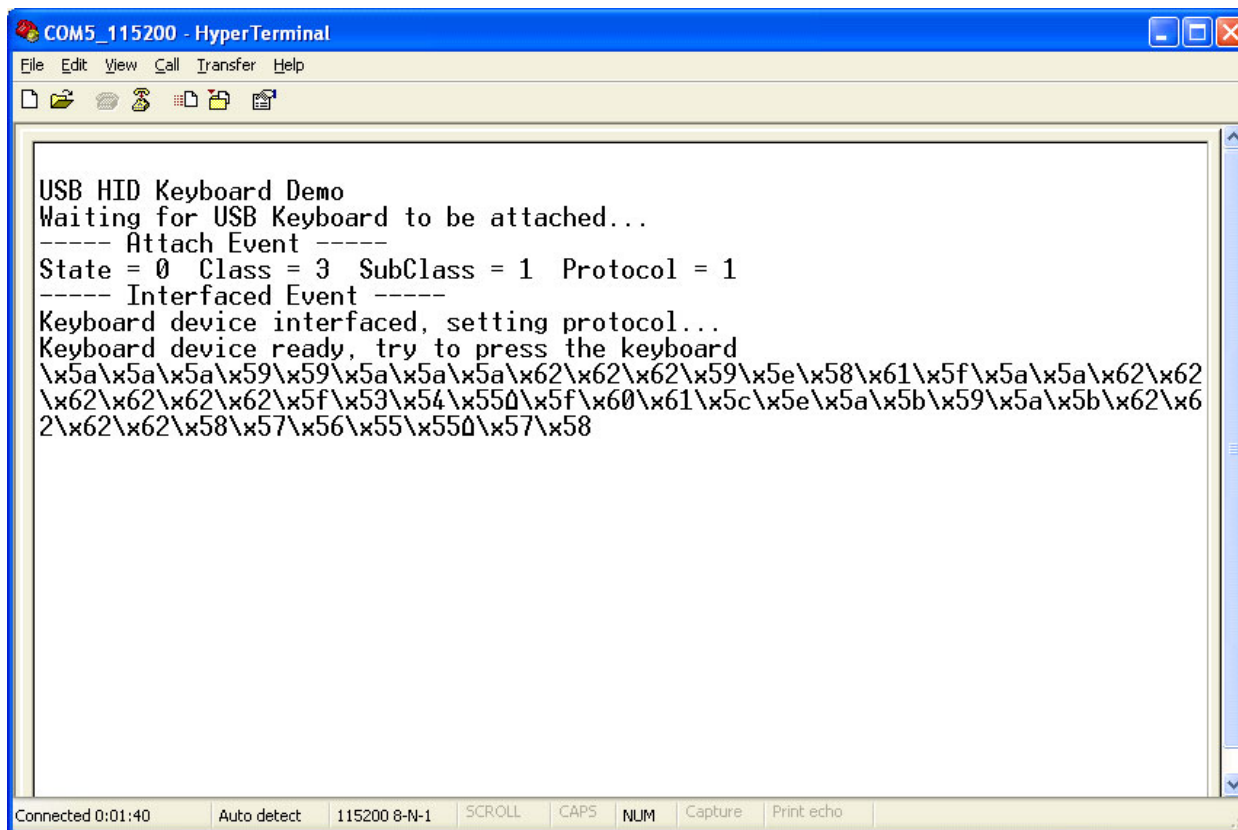

Figure B-8. Typing character from keyboard
4. Type some characters. The Hexa format of these characters will be displayed in HyperTerminal as shown in Figure B-8: